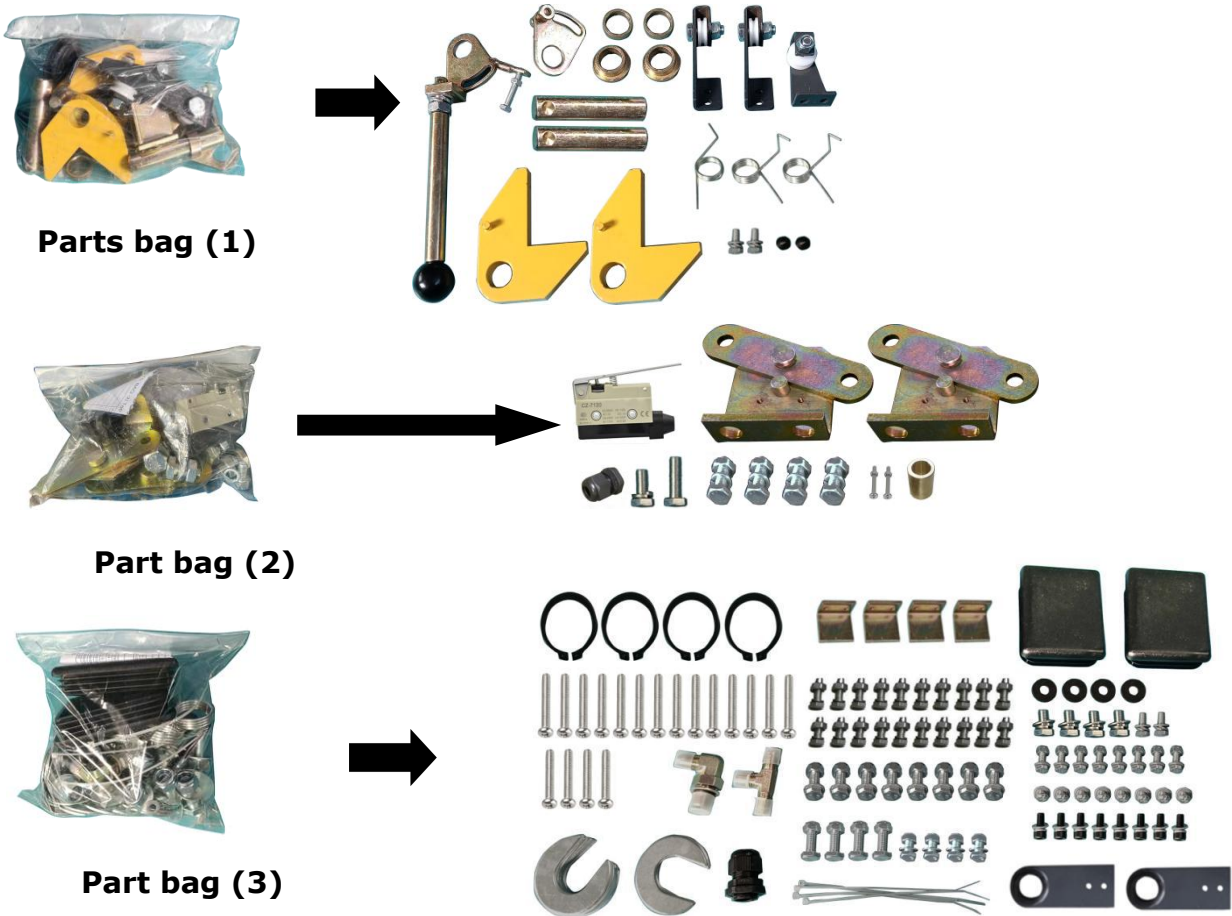

Fig. 15
5. Open the parts bag 1, 2 and 3; check the parts according to the list (See Fig. 15).